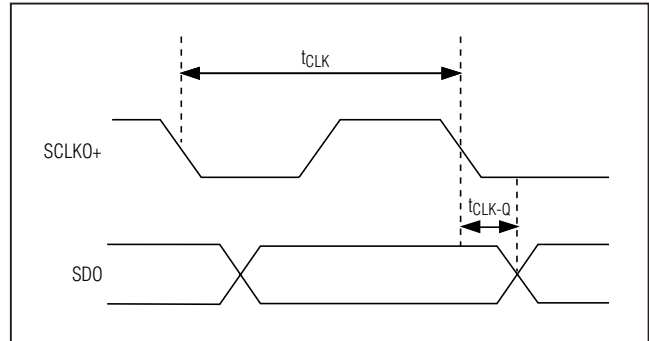

Figure 2. Definition of Clock-to-Q Delay
| Clock-to-Q Delay  | t CLK-Q | (Figure 2) (Note 5)                                  | -70  |       | +70 | ps                 |
**Note 5:** Relative to the falling edge of SCLKO+. See Figure 2.